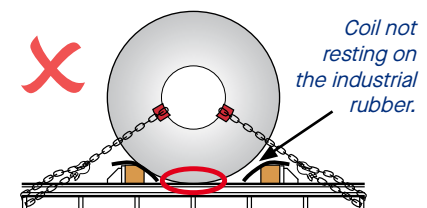

Fig.3.3: Coils must **NOT** touch the vehicle's deck or the steel coil rack.
- ✗ **DO NOT** allow coils to touch the vehicle's deck or the steel coil rack. (Fig.3.3)